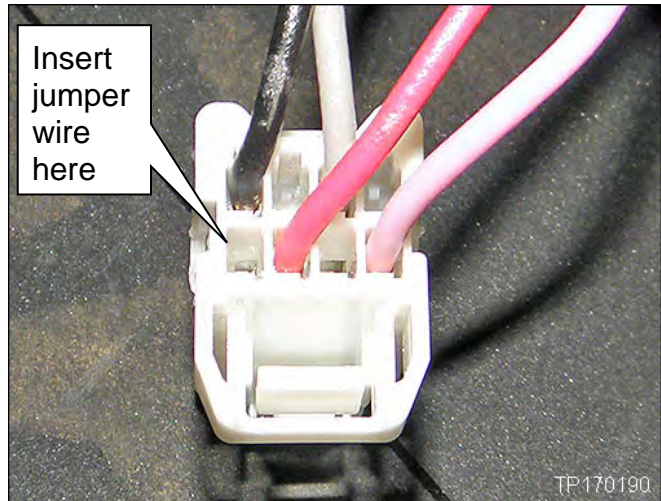

Figure 4
**NOTE:** In the next step, you will insert a jumper wire in the slot shown in Figure 4.
10. Insert the jumper wire as shown (see Figures 4 and 5).